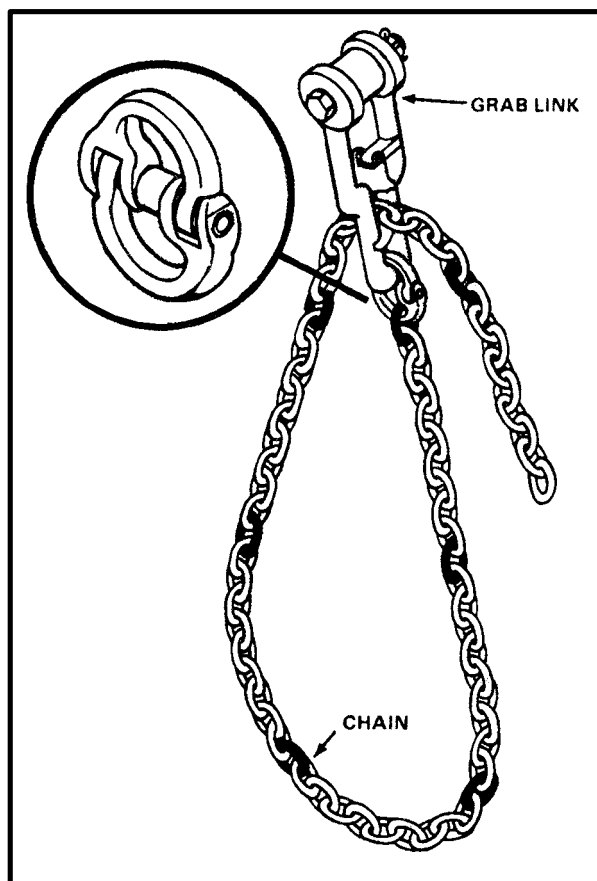

Figure 6-29. Grab Link and Attached Chain Leg
**d. Chain Assembly.** The 8-foot chain assembly has 70 links. Starting from the free end, every tenth link is painted olive drab to help in counting links. If additional lengths of chain are necessary, they can be joined to the existing chain leg using a coupling link. The chain link identified in the rigging procedures is inserted in the slot of the grab link (Figure 6-29).